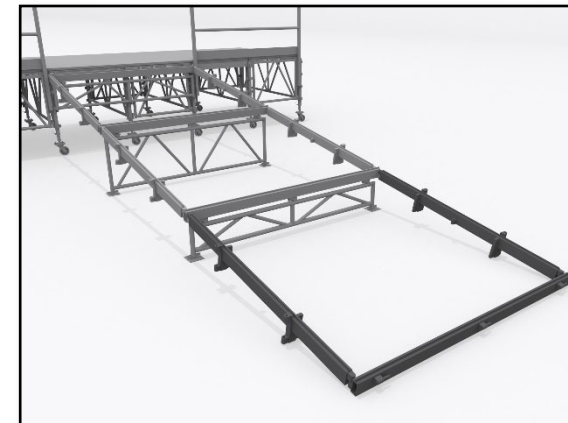

Fig. 47 – Connecting Secondary Beam One's
- 9.5.21 Lift the ends of the Secondary Beam Type One's and insert the unused connections at one end into the holes of Support Frame Two. *Fig. 47 – Connecting Secondary Beam One's*